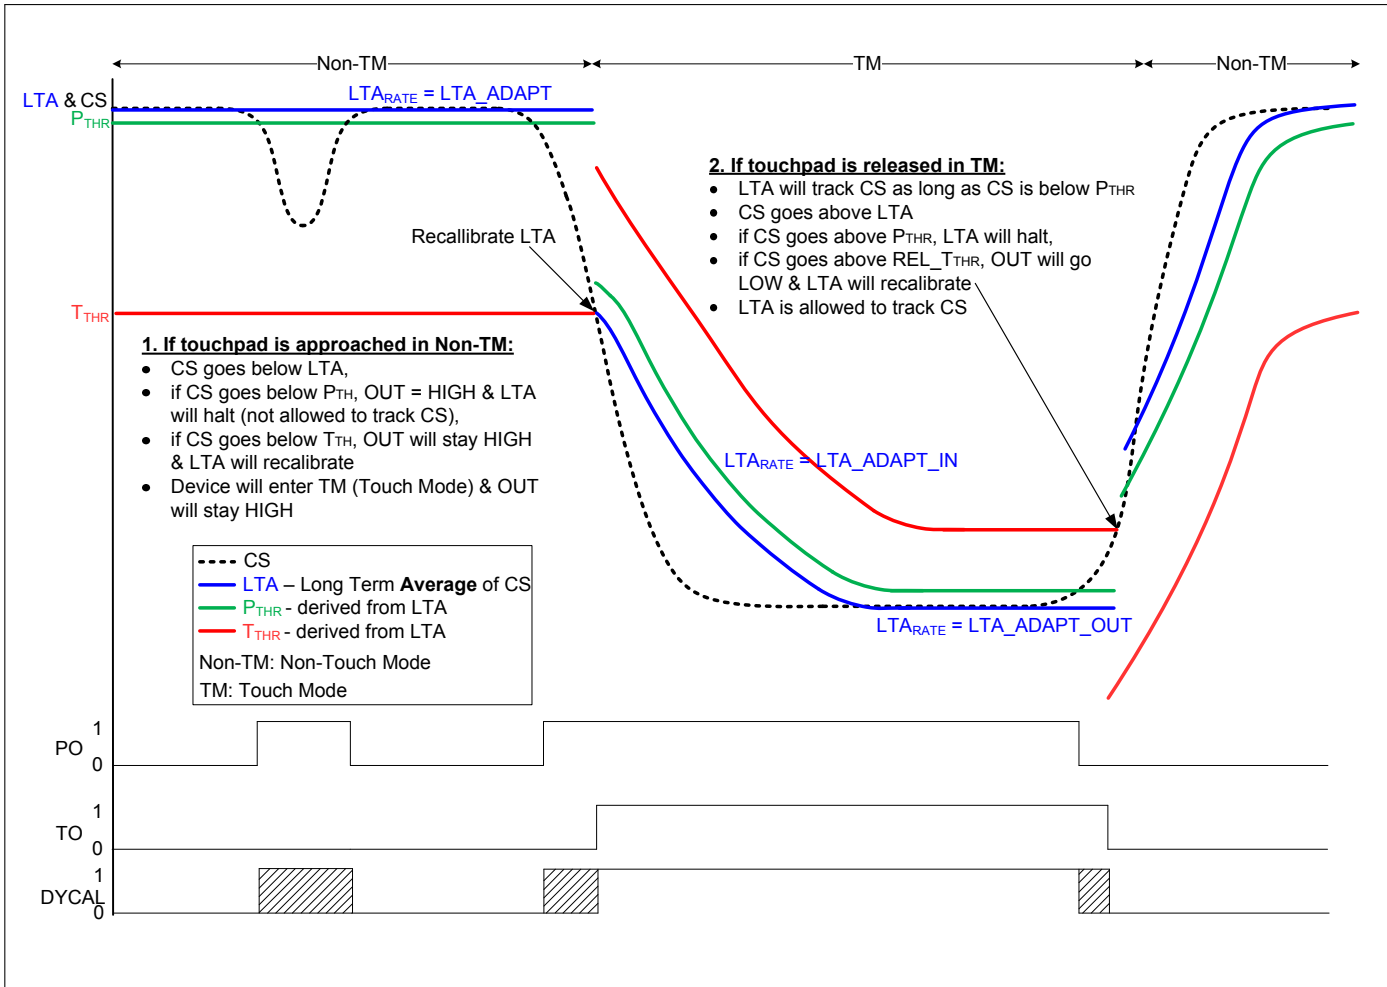

Figure 5.1: DYCAL Overview.
Figure 5.1 is a visual representation of the DYCAL™ functionality. The DYCAL output is used to indicate the status of a DYCAL™ event (both a proximity and a touch event). The DYCAL™ functionality is summarised below.
The LTA filter will adapt according to the LTA_ADAPT rate if the IQS253 is in non-TM and no proximity event is detected. See Figure 5.1 for a visual representation.
The LTA will adapt according to the LTA_ADAPT_IN rate if IC is IN Touch Mode (TM) and the LTA is adjusting towards CS. This rate will apply until LTA has reached CS. See Figure 5.1 for a visual representation.
This is the rate at which LTA adapts before CS is on its way OUT of TM. See Figure 5.1 for a visual representation.